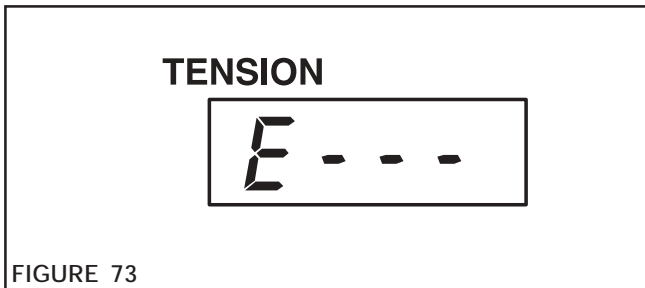

FIGURE 73
When an error (E) is indicated, the span adjustment cannot be completed (See Figure 73). Probable causes for Span Error include: